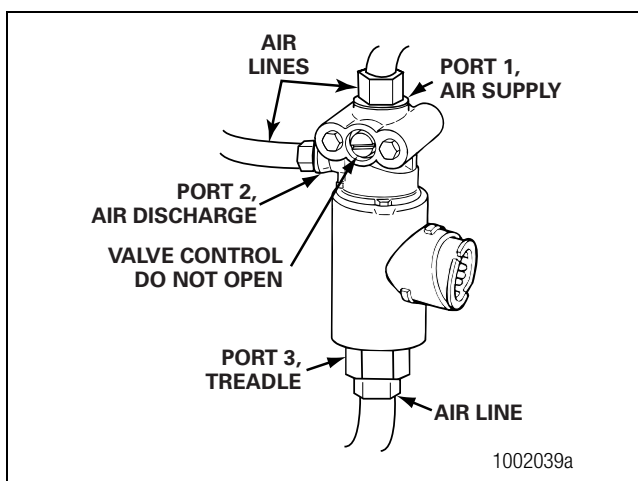

Figure 4.6
6. Disconnect the air lines from Port 1 (air supply), Port 2 (air discharge) and Port 3 (treadle) of the RSC valve. Figure 4.6.